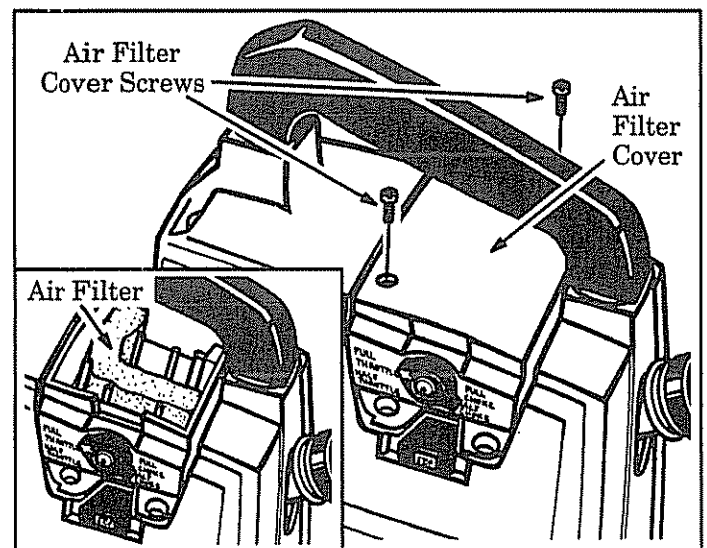

Figure 8
2. Remove the Air Filter Cover Screws and Air Filter Cover on top of the unit. Figure 8.
3. Remove the Air Filter. Figure 8 (inset).
8. Reinstall Air Filter and Air Filter Cover. Figure 8.